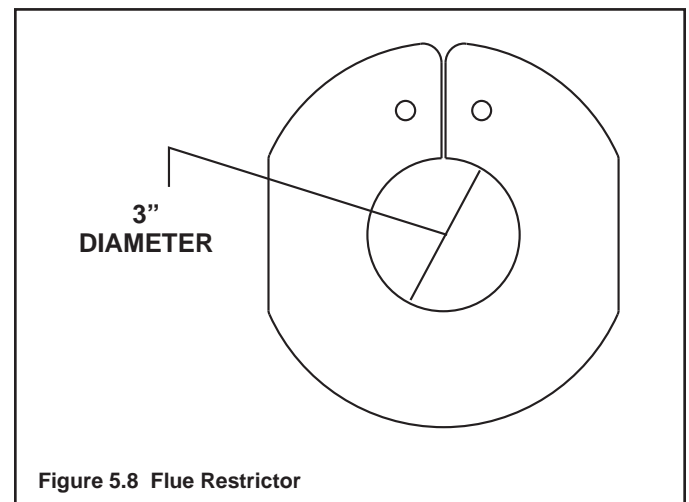

Figure 5.8 Flue Restrictor
2. The restrictor sits inside the 5" diameter collar in the bead area. Using a needle-nose pliers, insert the tips of the pliers into the two holes in the restrictor plate. Squeeze the pliers to flex the plate. The edges of the plate will need to overlap each other. Insert the plate into the 5" collar from inside the firebox. Release the pliers, the plate will expand into the bead (groove) inside the collar. Make sure the plate is fully in the groove so the restrictor cannot fall out (see Figure 5.8).